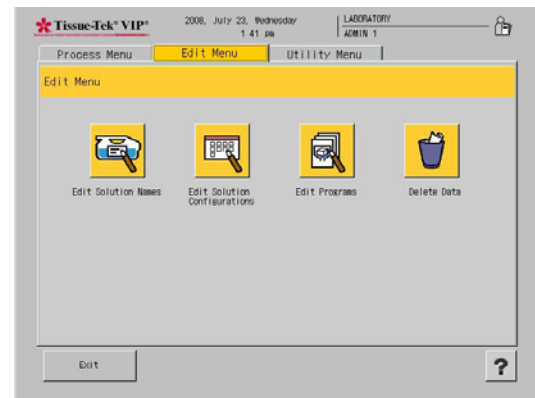

Figure 3-CC
- From the Main Menu, touch the **Menu** button and then touch the **Edit Menu** tab to display the Edit Menu (Figure 3-CC).